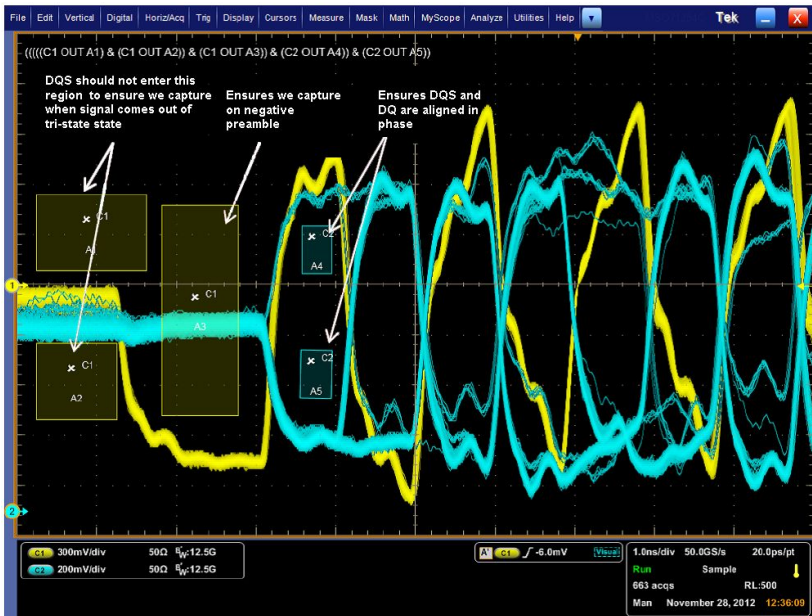

Figure 1: Read burst
**Isolating based on Preamble polarity and phase between DQS and DQ using Visual trigger.** Figure 1 shows a screen capture of using Visual Trigger to isolate Read signals based on Preamble polarity and phase difference between the DQS and DQ signals. Channel 1 of the oscilloscope is DQS and Channel 2 is DQ. Areas A1 and A2 are set so that when a signal is captured, there is no DQS signal in these regions. This ensures that the captured signal is coming out of tri-state. Area A3 is set to select the negative polarity of the Preamble. Areas A4 and A5 are set so that the DQ signal does not enter these regions, making sure that the DQS and DQ are aligned.